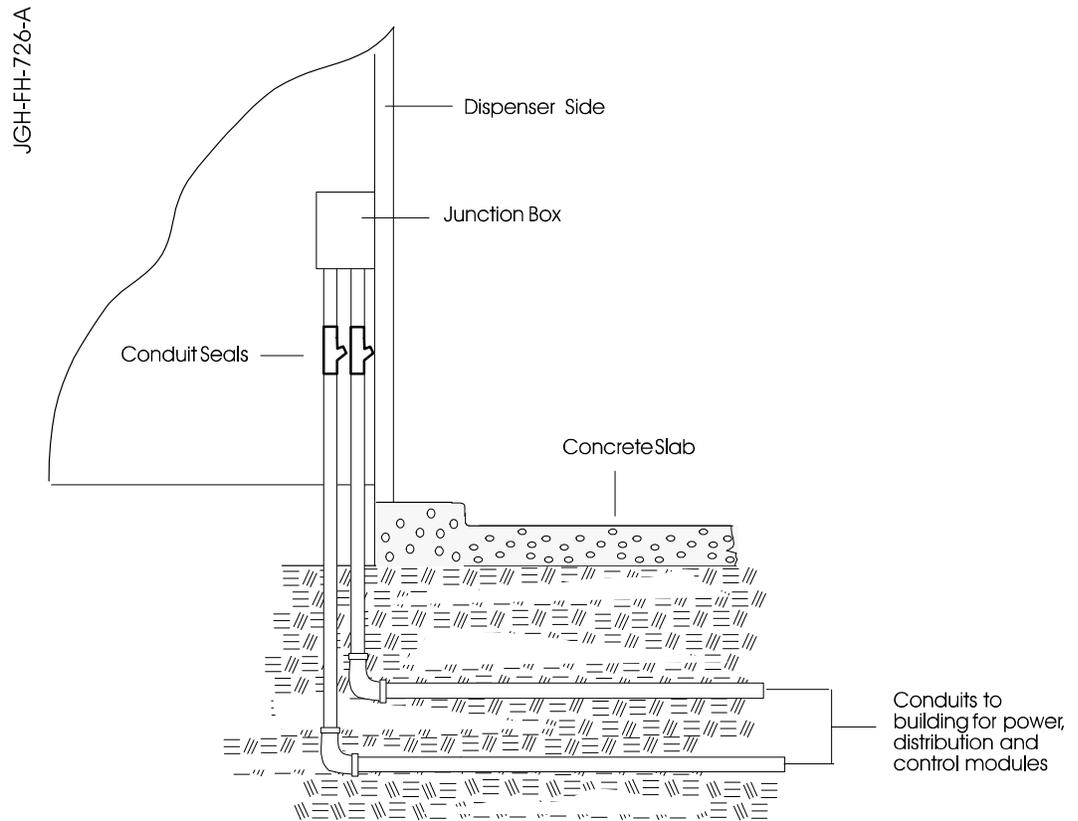

Figure A- 1 Data and Power Conduit Location
5. Remove the conduit sealing fitting from both junction boxes (at dispenser and in station). Refer to Figure A- 1.
Figure A- 1 illustrates general conduit location. Refer to the following figure.